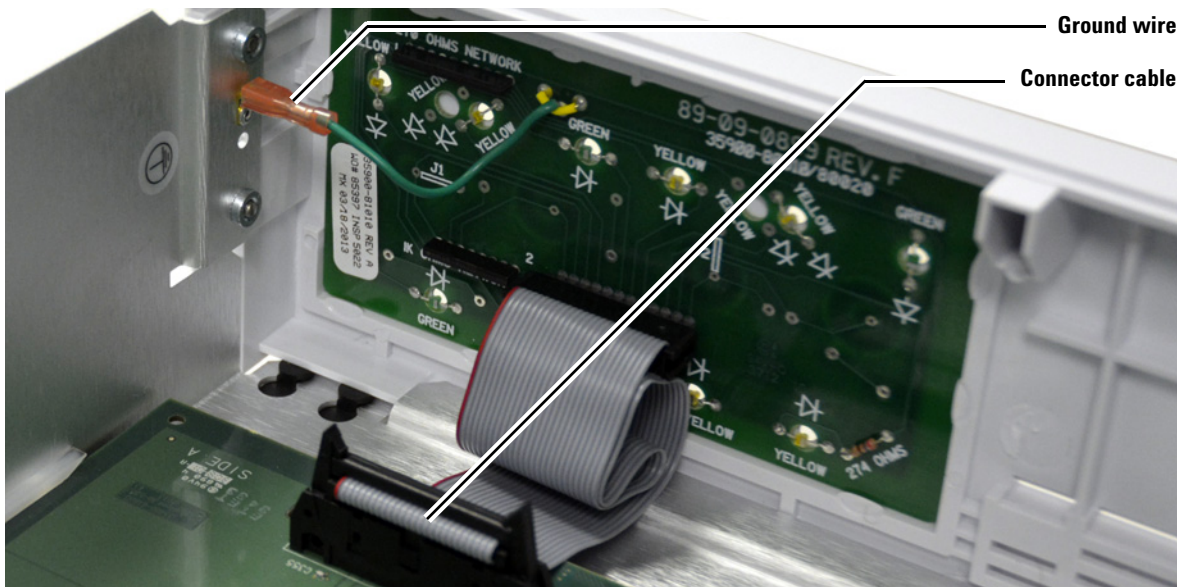

Figure 12 Removing the front panel
- 2 Remove the ground wire connection (green wire) from the ground clip by pulling it firmly from the chassis (see Figure 12).
- 3 Disconnect the front panel connector cable from the main board by pushing the clips out on both sides of the connector until the cable pops from the connector (see Figure 12).
- 8 Connect the front panel cable to the connector, pressing firmly until the ears of the connector lock over the ends of the black connector (see Figure 12 on page 45).
- 9 Reattach the green ground wire to the ground clip on the chassis (see Figure 12 on page 45).